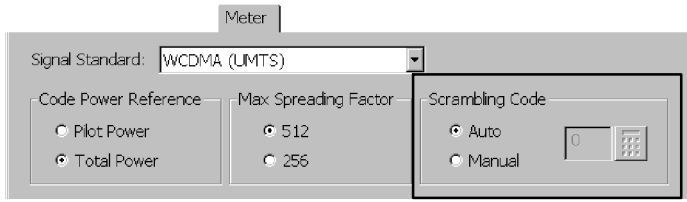

Figure 3-53: Setting the scrambling code
3. Tap the **Meter** tab. See Figure 3-53.